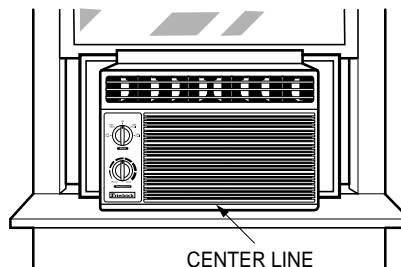

**Figure 28**
- a. Carefully lift the air conditioner and slide it into the open window. Make sure the bottom guide of the air conditioner drops into the notches of the L bracket. See Figure. 28.